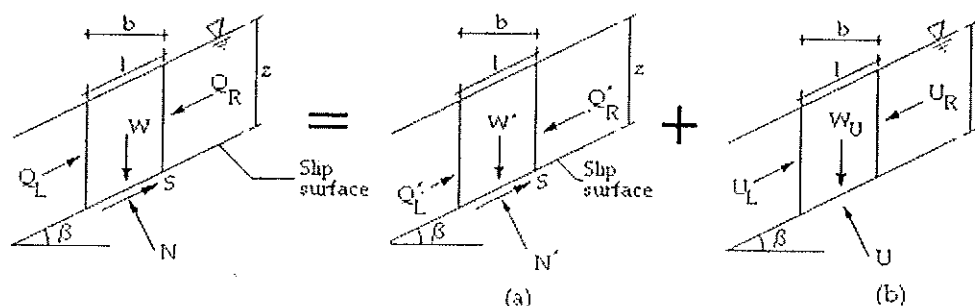

Figure B4
4. Figure B4 shows a free body diagram representing a submerged infinite slope in a cohesionless soil.
- A. Write the equations of force equilibrium representing Figure B4 (a) (4 marks)
- B. Write the equations of force equilibrium representing Figure B4 (b) (4 marks)